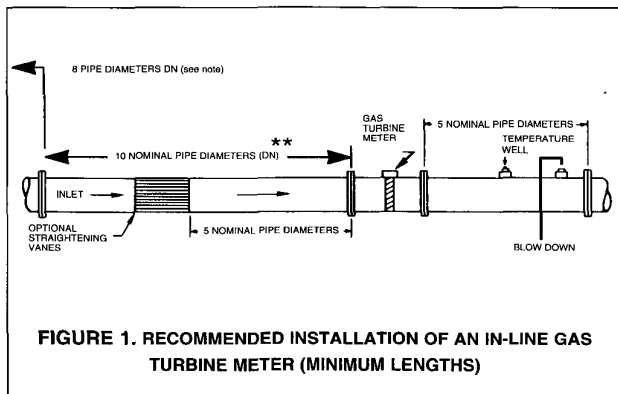

FIGURE 1. RECOMMENDED INSTALLATION OF AN IN-LINE GAS TURBINE METER (MINIMUM LENGTHS)
1. Inline - A minimum run of ten (10) pipe diameters (DN) of straight pipe must be used between any flow-altering device (other than flow throttling *) and the inlet flange of the Turbo-Meter (see Figure 1). This inlet pipe should be nominally the same interior diameter as the meter body. Minor variations in the piping interior diameter due to use of piping with different wall thickness will not affect the meter accuracy. Inline straightening vanes located four or five pipe diameters